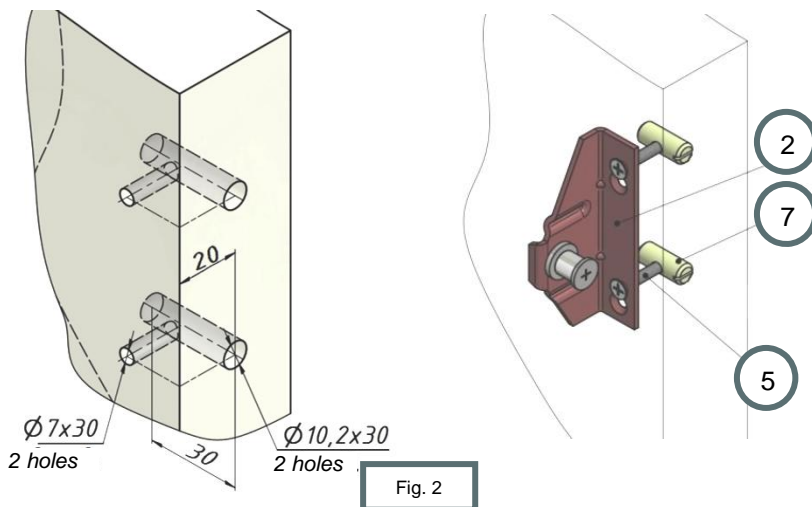

Fig. 2
8. Mark on the door end holes for barrel nuts **7** at the same level with the holes $\varnothing 7\text{mm}$ (see Fig.2).
10. Mount the latch **2** on the door using screws **5** and barrel nuts **7** (see Fig.2).